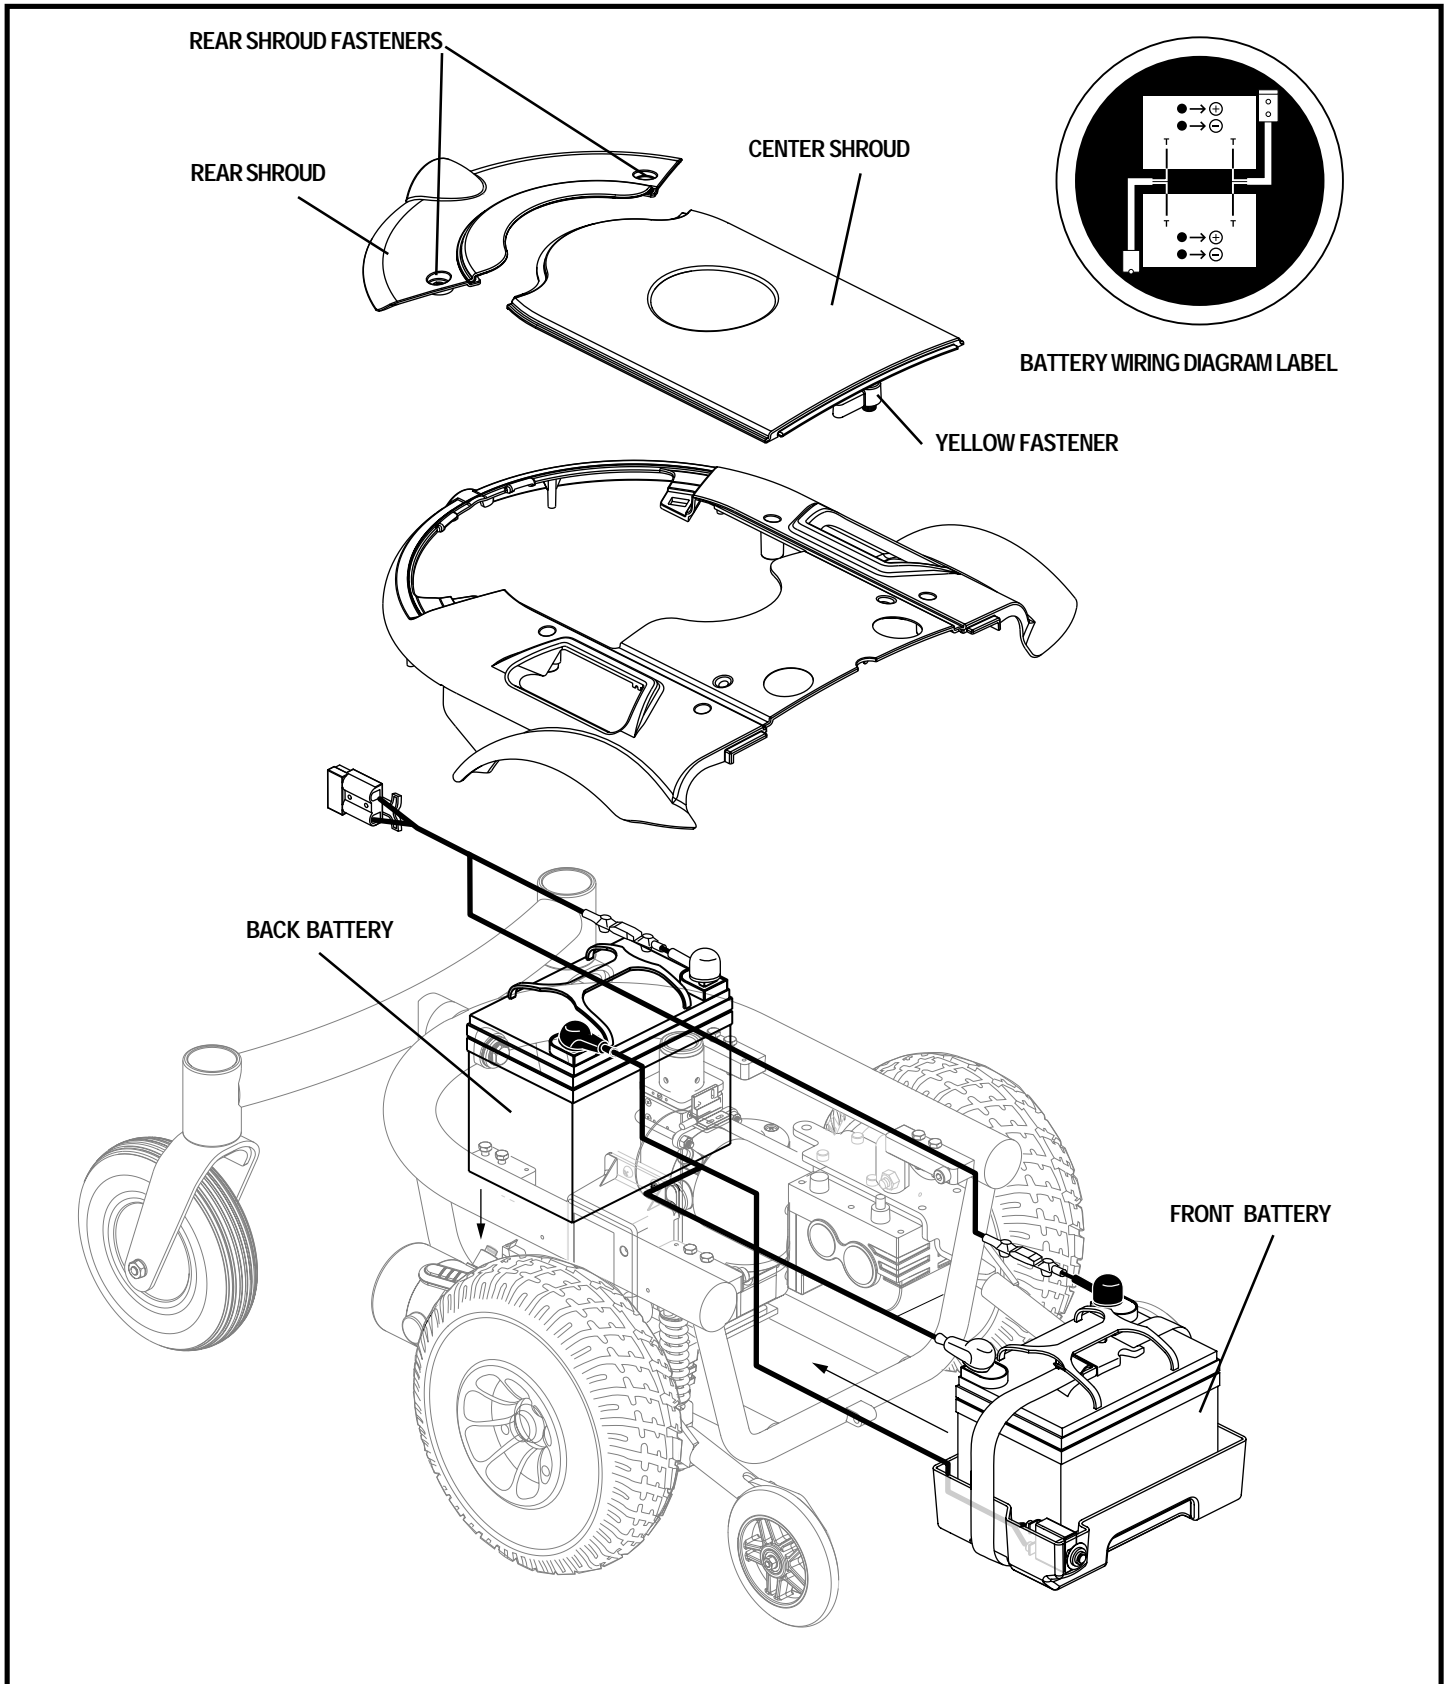

Figure 31. Battery Installation (VSI shown)
- Turn the rear shroud fasteners one-quarter turn in any direction. See figure 31.
- Turn the yellow fastener one-quarter turn and remove the center shroud. See figure 31.
- Disconnect the battery harness from the back battery. See figure 31.
- Connect the battery harness to the back battery according to the battery wiring diagram. See figure 31.